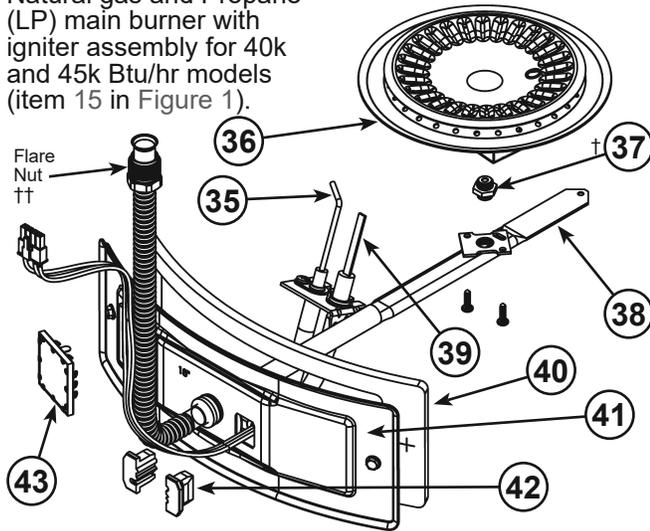
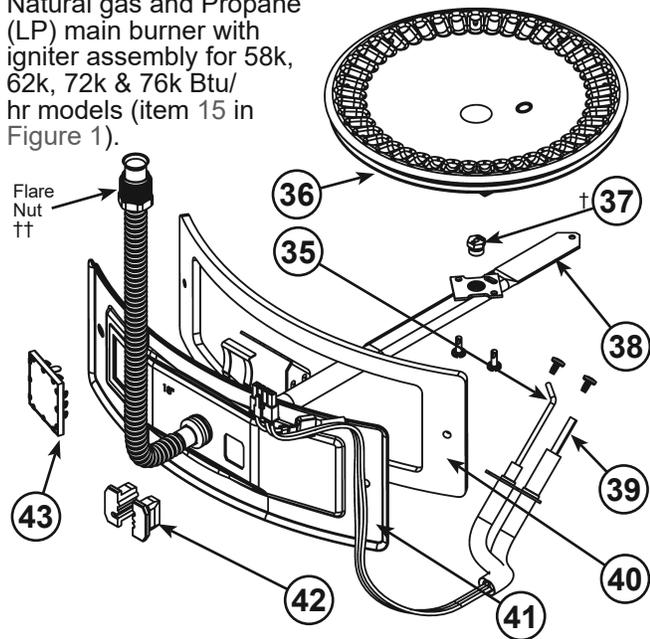

Figure 51.
Figure 52.
- 15 Manifold Door Assembly (behind outer door) (see Figure 3 & Figure 4) (see also **Figure 51 & Figure 52**)
- 35 Flame Sensor Rod (see Figure 3 & Figure 4) (see also **Figure 51 & Figure 52**)
- 36 Sheet Metal Burner (see Figure 3 & Figure 4) (see also **Figure 51 & Figure 52**)
- 37 Gas Orifice (see Figure 3 & Figure 4) (see also **Figure 51 & Figure 52**)
- 38 Gas Manifold (see Figure 3 & Figure 4) (see also **Figure 51 & Figure 52**)
- 39 Hot-Surface Igniter (see Figure 3 & Figure 4) (see also **Figure 51 & Figure 52**)
- 40 Manifold Door Gasket (see Figure 3 & Figure 4) (see also **Figure 51 & Figure 52**)
- 41 Manifold Door (see Figure 3 & Figure 4) (see also **Figure 51 & Figure 52**)
- 42 Two Piece Grommet With Clip (see Figure 3 & Figure 4) (see also **Figure 51 & Figure 52**)
- 43 Viewport (see Figure 3 & Figure 4) (see also **Figure 51 & Figure 52**)